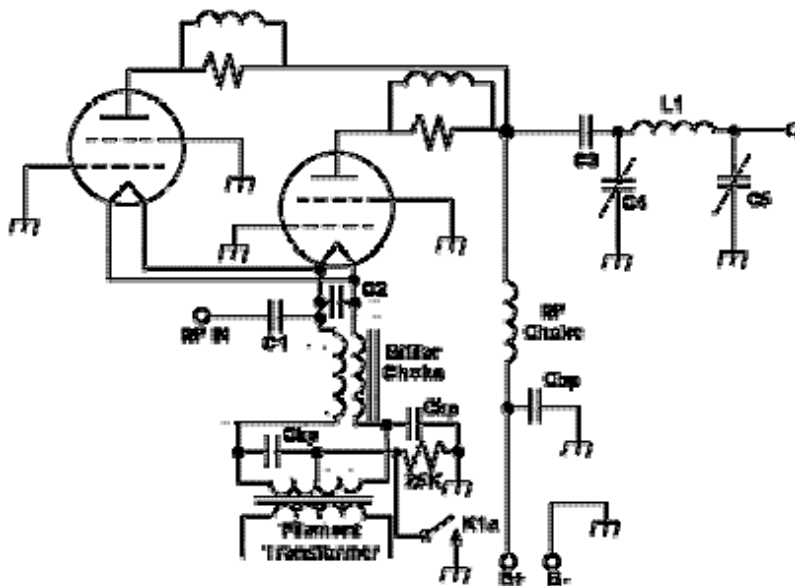

Figure-3: Two Electron Tubes in Parallel
6. When using one Electron Tube, the ***quiescent idling current*** can be reduced, permitting the Electron Tube(s) to run cooler, by connecting a 25K Ohm or 30K Ohm, 10 Watt resistor in line with the Filament transformer center tap and ground (as shown in **Figure-3 below**); ***when switched to transmit, an unused relay pair of K1a could then be engaged to short out the resistor, bringing the center tap directly to ground.***
In Figure-3 above:
6. When using two Electron Tubes, the ***quiescent idling current*** can be reduced, permitting the Electron Tube(s) to run cooler, by connecting a 25K Ohm or 30K Ohm, 10 Watt resistor in line with the Filament transformer center tap and ground (as shown in **Figure-3 below**); ***when switched to transmit, an unused relay pair of K1a could then be engaged to short out the resistor, bringing the center tap directly to ground.***